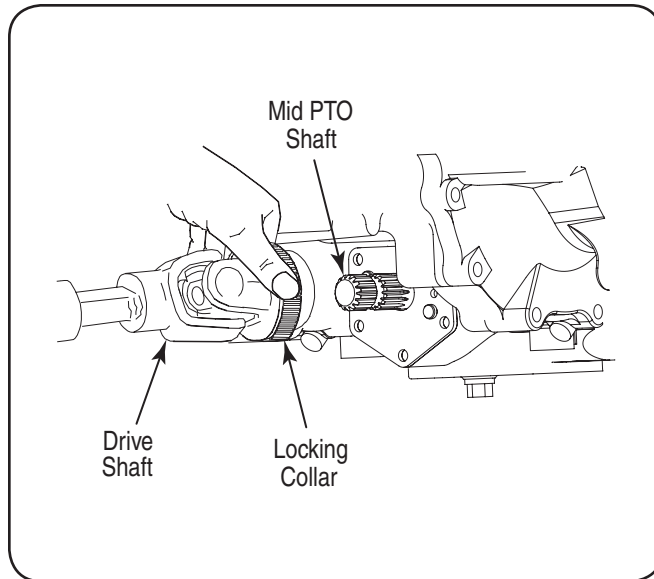

Figure 15
- Align the locking collar of the drive shaft with the mid - PTO shaft and slide the drive shaft fully onto the PTO shaft. If necessary, compress the locking collar of the drive shaft to ease connecting the shaft. See Figure 15.
- Accessing the drive shaft from either the side or the rear of the tractor, grasp the drive shaft locking collar and compress toward the body of the shaft to release and slide the shaft from the tractor’s mid-PTO shaft. Pivot the drive shaft to the side so that it rests on top of the deck housing. Refer to Figure 15.
- From either side of the tractor, insert the clevis pin through the lockout bracket, beneath the rear lift arm, to secure the lift arm in the up position. See Figure 15.